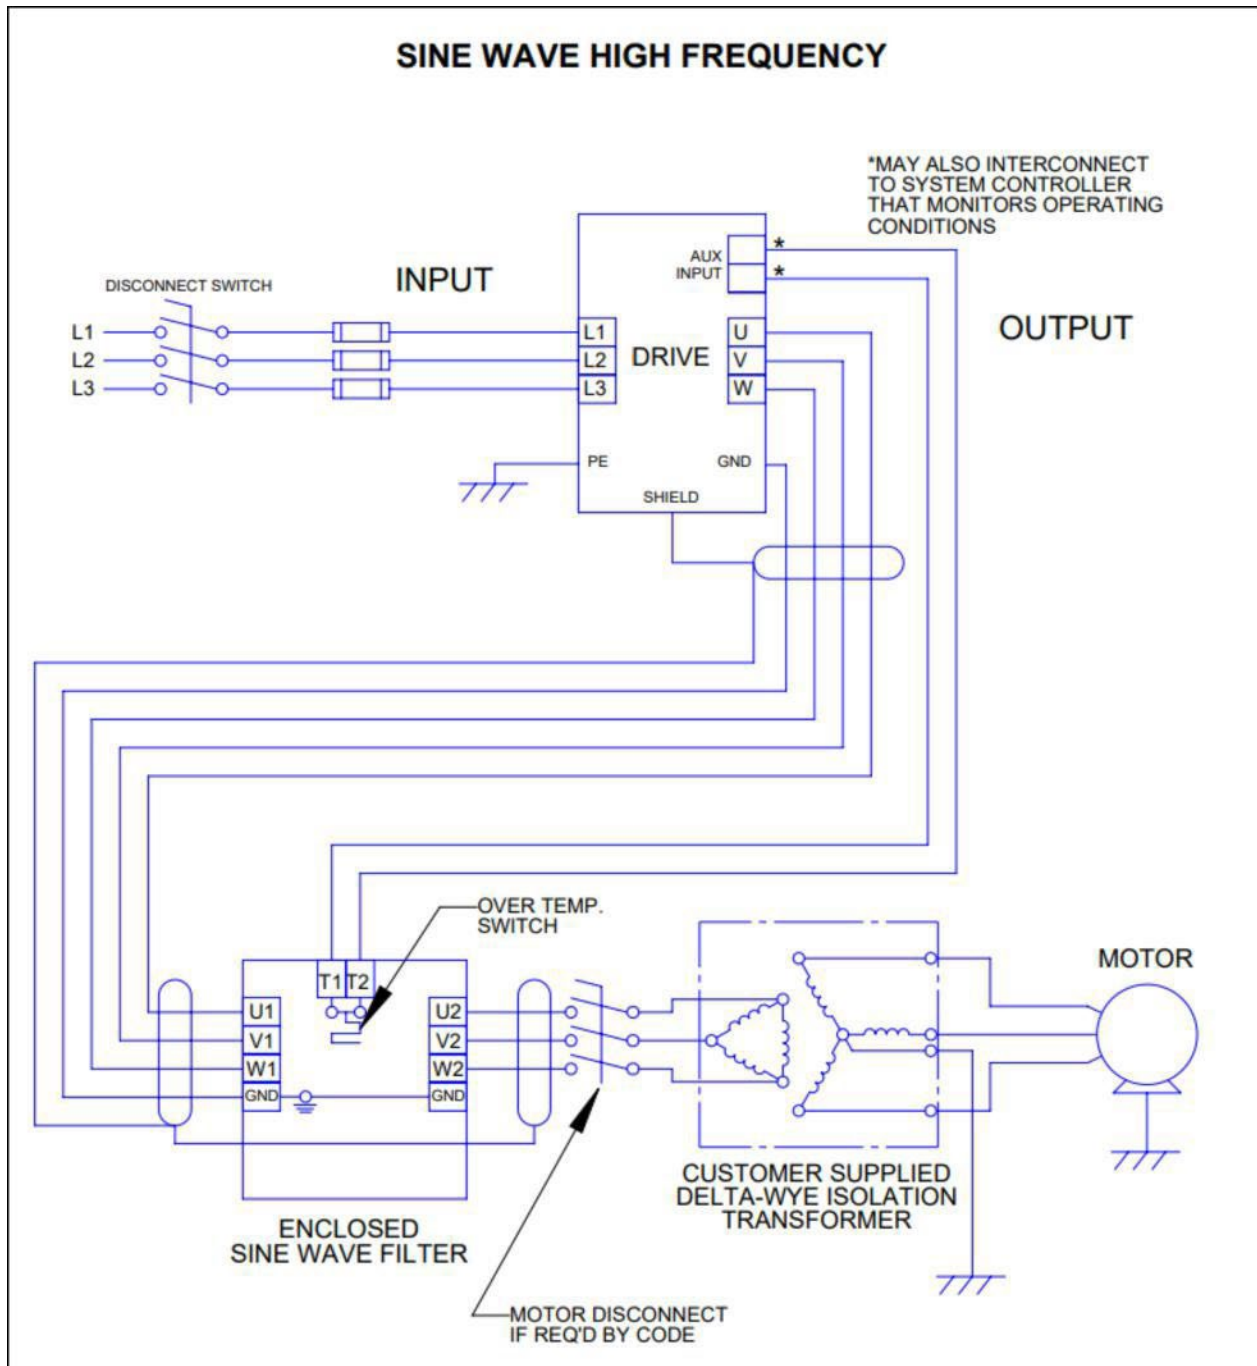

Figure 5-3: Isolation Transformer
- For isolation transformer connections between the filter, motor and the drive is shown in Figure 5-3: Isolation Transformer (p18).